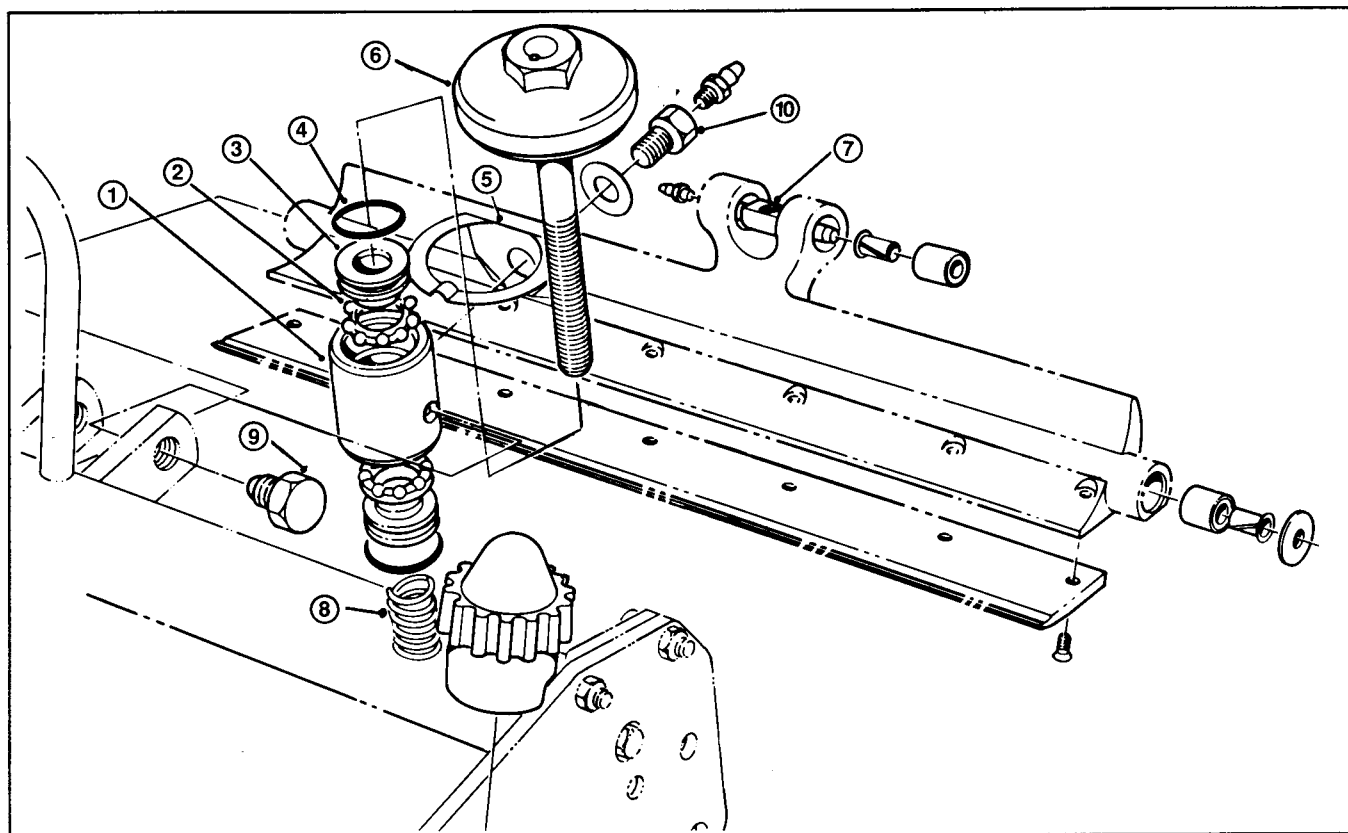

Figure 38
2. Remove two (2) pivot screws (Fig. 38).
4. If necessary, remove locknut securing die spring to shaft (Fig. 6b). Slide pivot housing off adjustment knob threaded shaft (Fig. 38).
1. Use a saw to cut the lift bail off of the cutting unit. Make the cut 1 inch from the horizontal frame tube (Fig. 38).